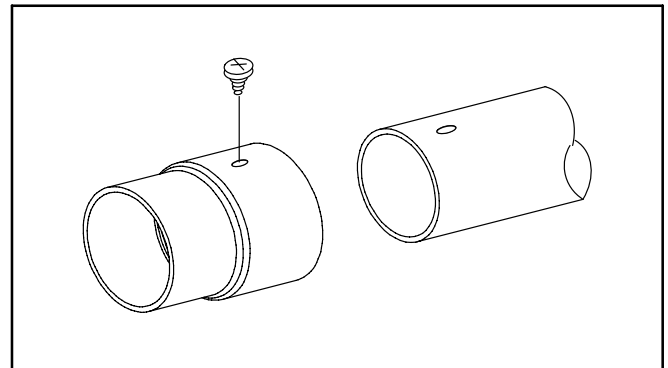

FIGURE 3-7. TYPICAL SPARK ARRESTING SCREEN
12. Unless the muffler has an integral spark arrester, install a spark screen (Figure 3-7) or other kind of approved add-on device to comply with regulations for vehicles driven on federal lands.